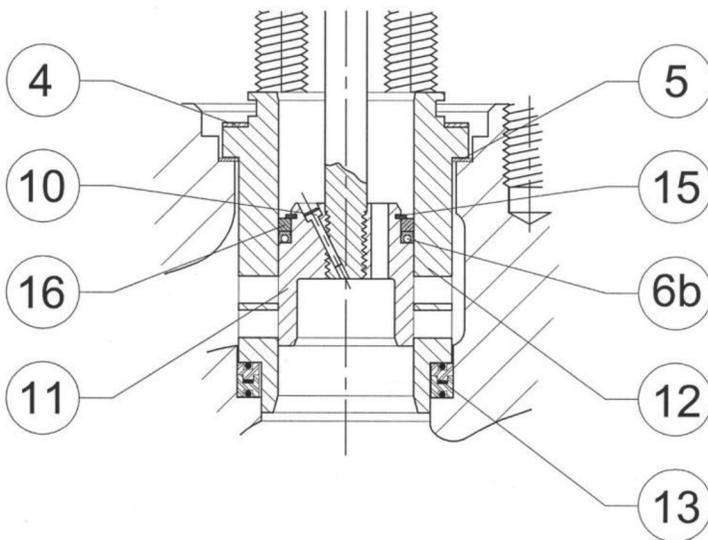

Figure 2: Mark H-900, H-1500 and H-2500 Valve Body Showing Mark ET Trim
11. Install a new bonnet gasket (Figures 2 and 3, Key 4) onto the cage (Figures 2 and 3, Key 12).
Note: The valve plug assembly of the ED and ET fit inside the cage with tight tolerances. When installing the valve plug assembly be sure not to damage the piston rings or the seal ring (Figures 2 and 3, Keys 6, 6a, 6b).